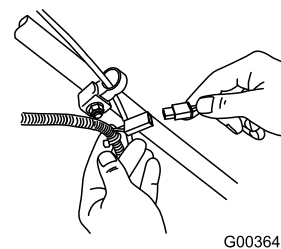

Figure 12
- Connect the charger to the mower wire harness located below the ignition key (Figure 12).